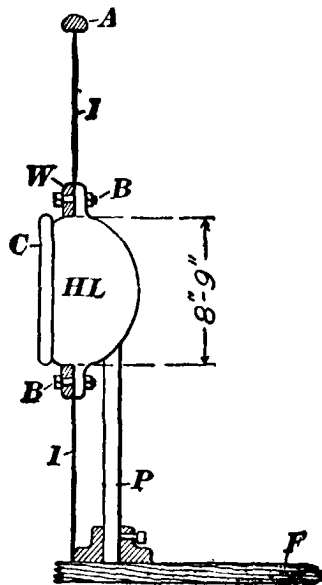

FIG. 54.
48. In the wiring diagrams shown, the headlights have been placed on top of the bonnets of the cars; when so placed, they are spoken of as **hood lights**. But headlights are not always put on top of the hood; on many roads, they are set into a round hole cut in the center of the dash iron; when so placed, they are spoken of as **dash lights**. Fig. 54 gives a general idea as to how a headlight sets into the dash. The style shown is known as the **pot headlight**. *A* is the dash rail; *I*, the iron; *F*, the floor; *HL*, the headlight whose cover *C* swings outwards; *P*, an iron pipe, through which the wires are run to the lamp socket.